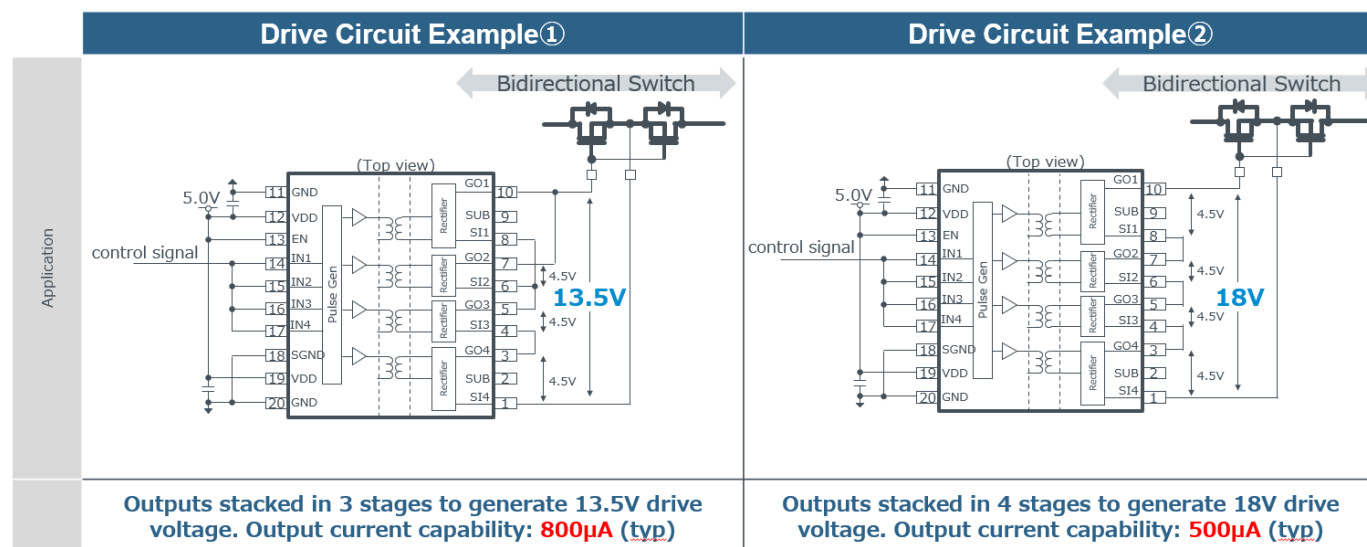

Figure 21. Circuit Examples of BM79330FV-LB
- **Securing Gate Voltage through Series Connection Utilizing Floating Outputs:** As shown in Figure 21, this IC features "floating voltage outputs (4ch)" where each channel independently generates a driving voltage. On this board, by connecting these 4-channel outputs in series, the gate voltage necessary to reliably drive the SJ-MOSFET is secured without adding a dedicated external power supply or boost circuit.